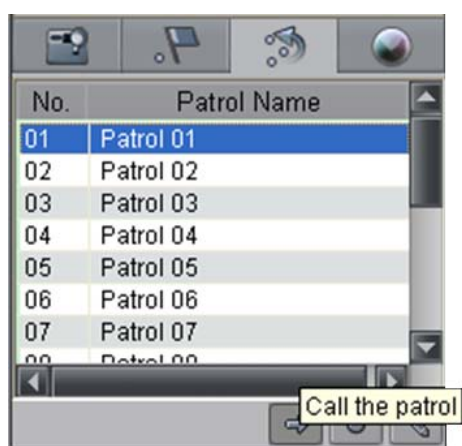

Figure 4.2.25 Call Patrol
**Call Patrol:** Select a predefined patrol from the list and click *Call the Patrol* button to call a patrol. Refer to Figure 4.2.25.